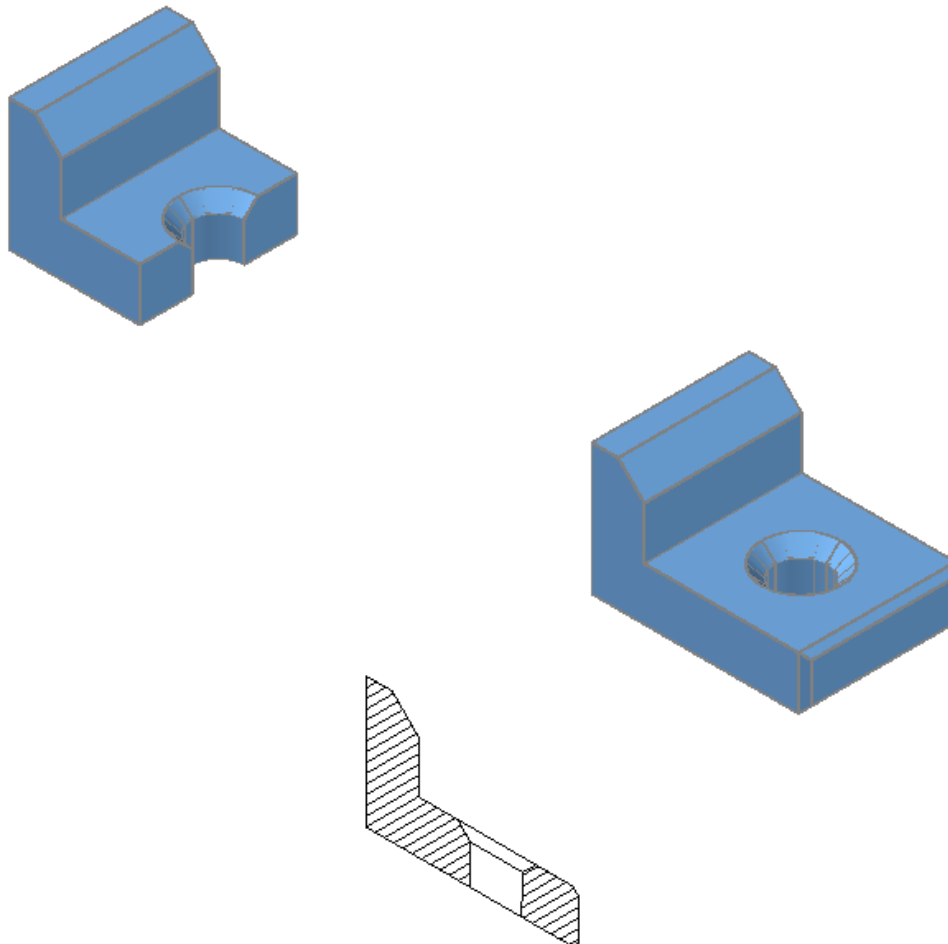

Figure Step 18
Step 18 Set the current UCS to World and the current visual style to Realistic. (Figure Step 18)